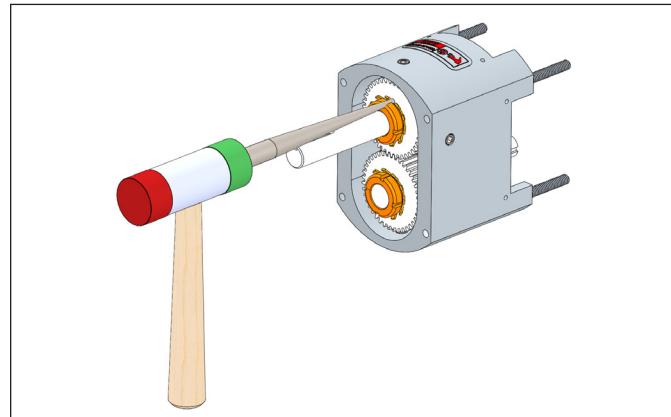
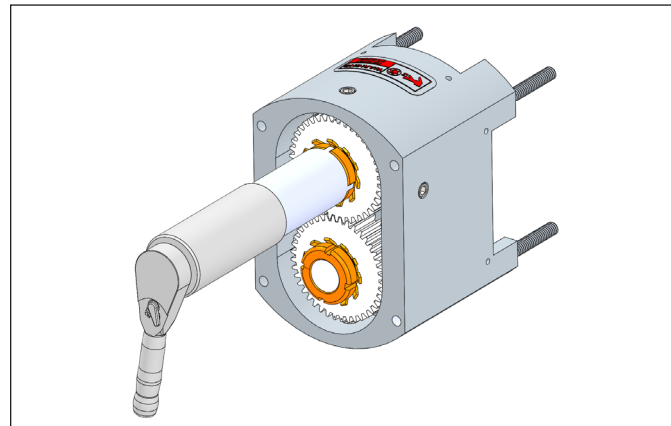

Figure 38. Bending Tabs on Lock Washers
Figure 39. Removing Lock Washers
2. Using a hammer and a punch, bend the tabs straight on the lock washers (*Figure 38*). Use a wedge (wood or plastic) to keep the shafts from turning while removing the lock nuts (*Figure 39*). Using a spanner wrench or the nut removal tool (available from Ampco), remove the gear lock nuts. Slowly remove the gears from the shafts. Remove the gear keys and gear spacers from the shafts.